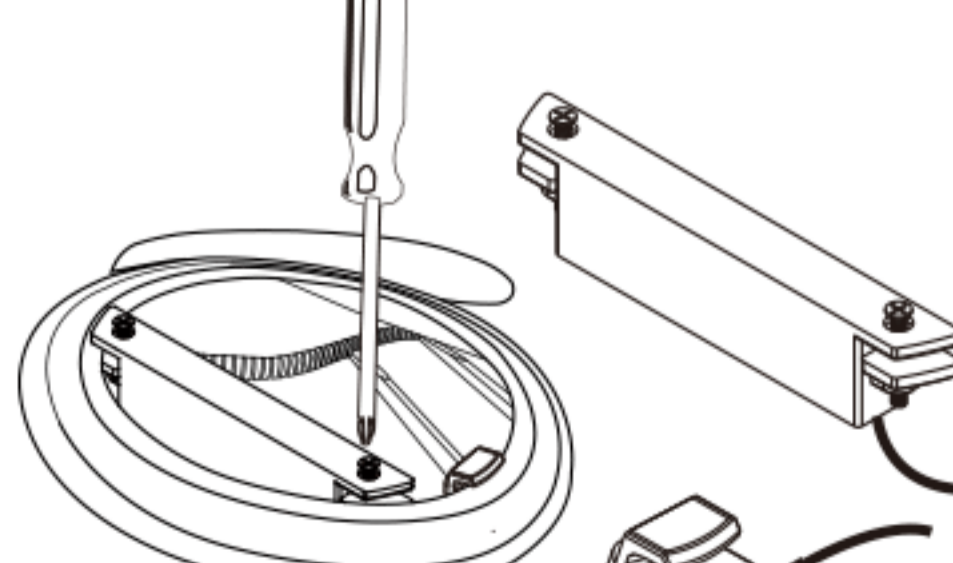

Fig.6
5. After the battery is installed, fix the main body of the Tiny pickup solenoid coil, the volume control knob as shown in Figure 6, and tighten the pickup screw with a cross. Do not twist the screw too tightly to avoid damaging the guitar panel.